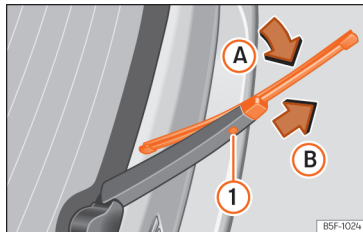

Fig. 189 Changing the rear wiper blade
- Rotate the blade lightly >>> Fig. 189 (arrow A).
- Hold down the release button ① while gently pulling the blade in the direction of arrow B.
- Insert a new blade of the **same length and type** in the rear wiper arm in the opposite direction to the arrow B until button ① hooks into place.